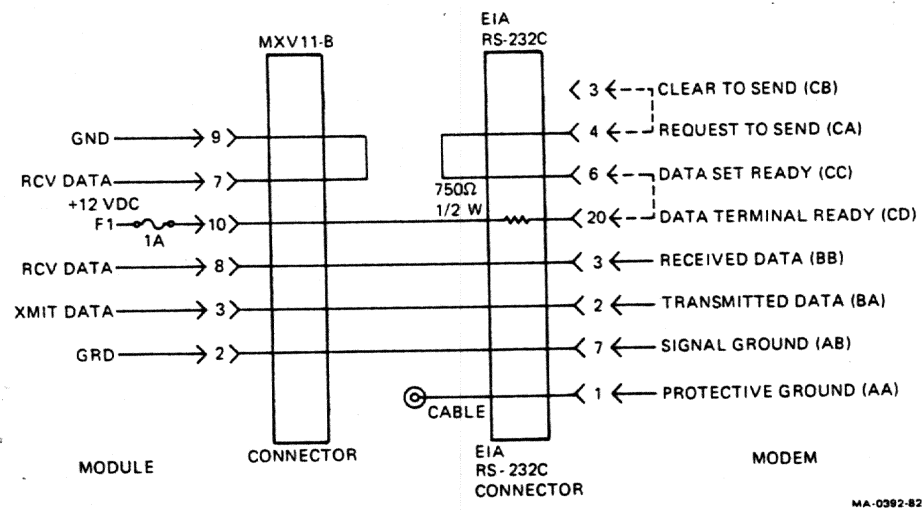

Figure 2-11 BC21 B-05 Modem Cable
- 1. To connect directly to a local EIA RS-232C terminal, you must use a null modem. To design the null modem into the cable, switch Received Data (pin 2) with Transmitted Data (pin 3) on the RS-232C male connector as shown (Figure 2-11).